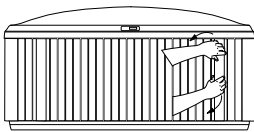
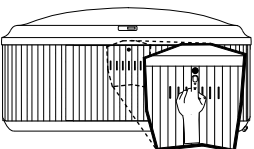

Figure 13.2a
Figure 13.2b
2. **J445** - Locate the front panel’s trim pieces, Figure 13.2a. Starting at one side, gently pull the panel to release it from the mounting clips. **J435** - Press the retractable push button to release the panel door from the spa frame, Figure 13.2b.